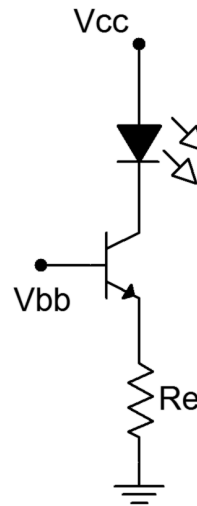

Figure 3
7. Consider the non-saturating current source of Figure 3 using $V_{cc} = 10$ volts, $V_{bb} = 5$ volts and $R_e = 470 \Omega$. Using a typical beta of 150, calculate the base and collector currents, and the collector-emitter voltage and record them in the first row of Table 3 (theory).
8. Build the non-saturating current source of Figure 3 using $V_{cc} = 10$ volts, $V_{bb} = 5$ volts and $R_e = 470 \Omega$. Measure and record the base and collector currents, and record the collector-emitter voltage in the first row of Table 3 (experimental). Also compute and record the deviations between theory and experimental results.
12. As seen in steps 7 through 11, the LED current of Figure 3 is a function of the base supply and the emitter resistor. Determine a new value for the emitter resistance that will yield an LED current of 15 mA. Record this value in Table 4. Obtain a new resistor close in value to the calculated result and swap it into the circuit. Measure the resulting LED current and record in Table 4.
14. Simulate the circuit of Figure 3 and record the currents and voltage in Table 6.
3. The circuit of Figure 3 is stated to be a non-saturating current source. How do the data of Table 3 confirm this statement?